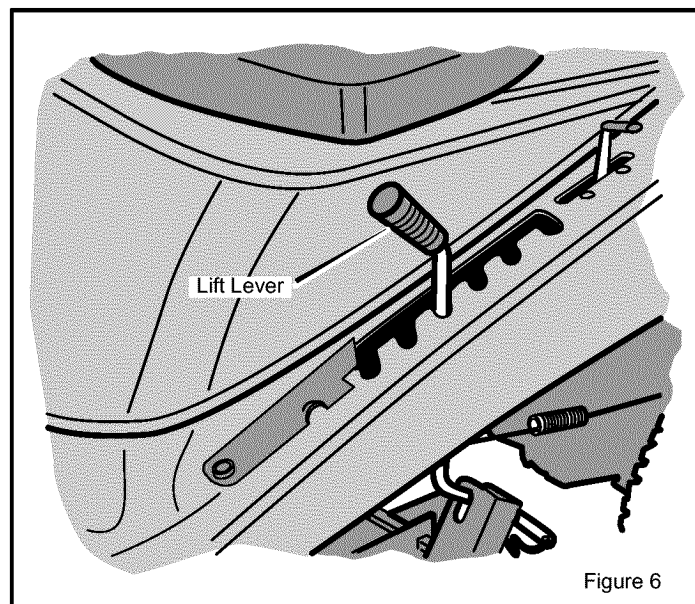

Figure 6
1. Move the **lift lever** forward to lower the mower housing and back to raise the mower housing (Figure 6).